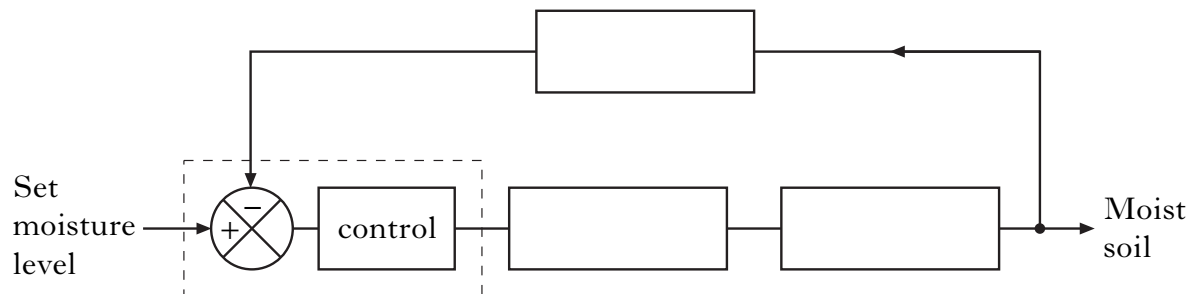

Figure Q2
- (a) Complete the control diagram (in Figure Q2) for the system. 3
- (b) (i) State the type of control shown in Figure Q2. 1
- _____ (7)